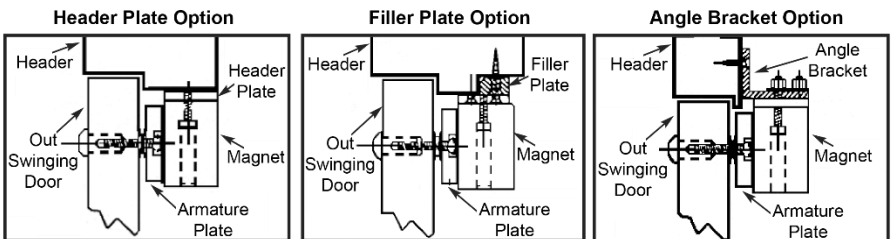

Figure 2. Door Frame Installation Options
1. DETERMINE the type of door frame header and whether a filler plate, header bracket, or angle bracket is required for installation (see Figure 2, “Door Frame Installation Options”).